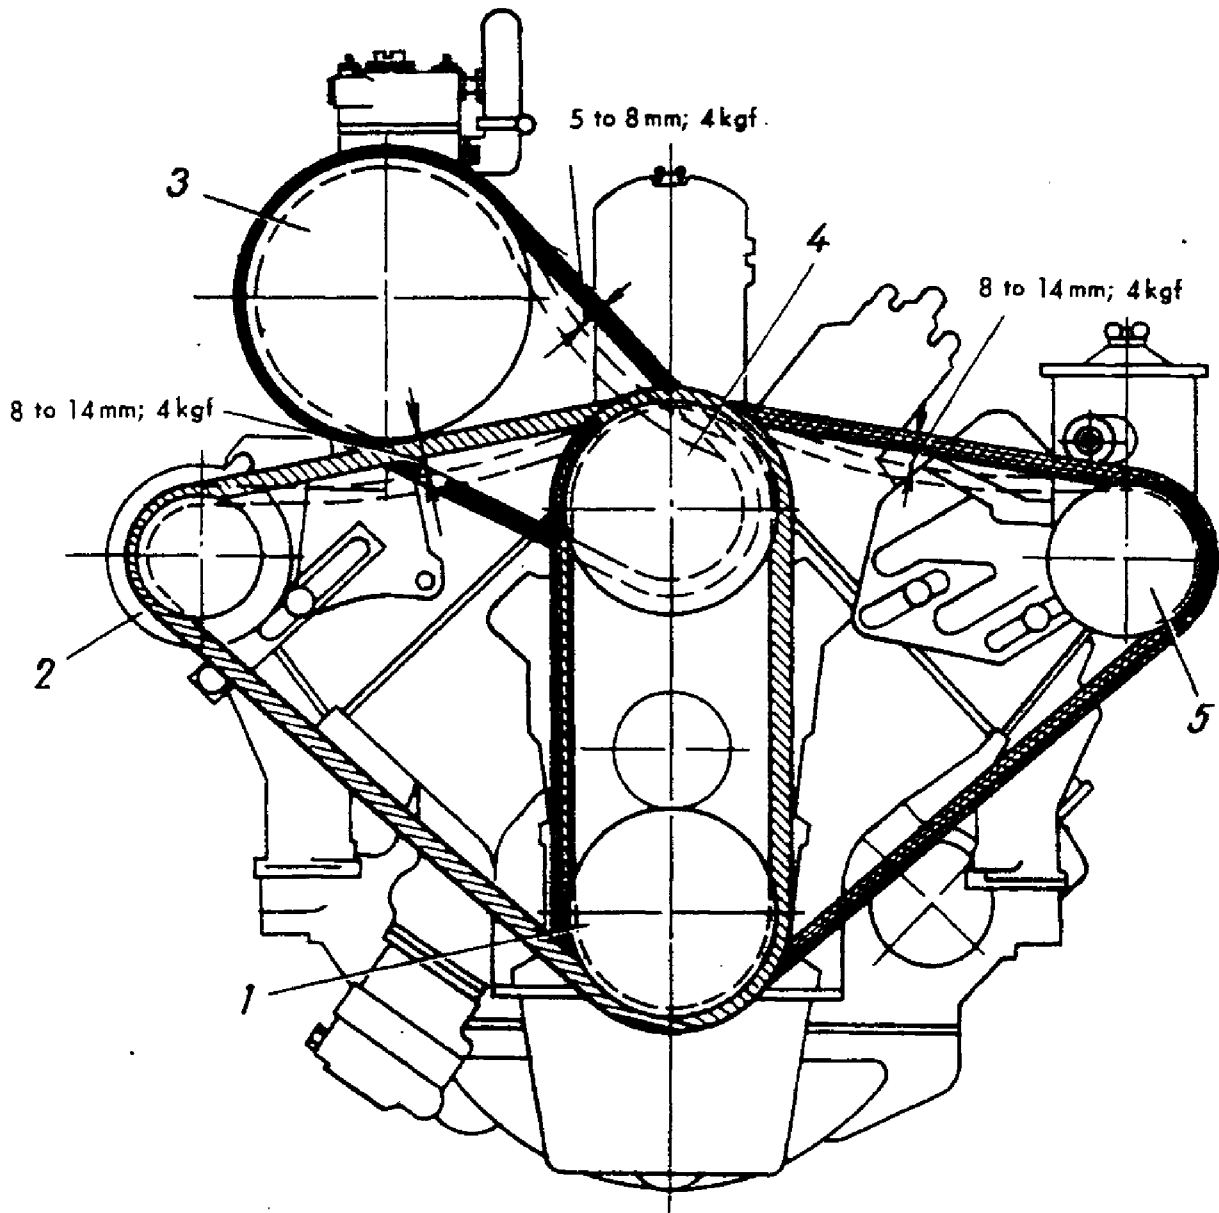

FIG.6. DRIVE BELT TENSION DIAGRAM
Check the tension of the belts (Fig.6) driving the water pump, fan (generator), steering booster pump of the steering gear and the compressor.
7. Check and adjust, if necessary, the belt tension (Fig.6) of the water pump, fan (generator), steering booster pump and compressor.